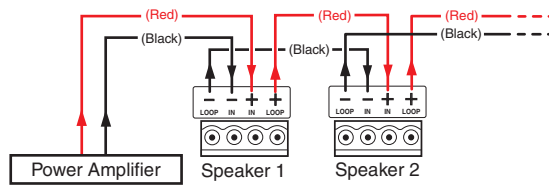

Figure 39. Wiring Multiple Speakers Using Loop-through
- Wiring Multiple Speakers Using Loop-through:** A loop-through electrical connection is made on the crossover board of the CS 26T Plus. Connect the wires to the captive screw connectors of the speakers, as shown in figure 39. Be sure to tighten the screws.